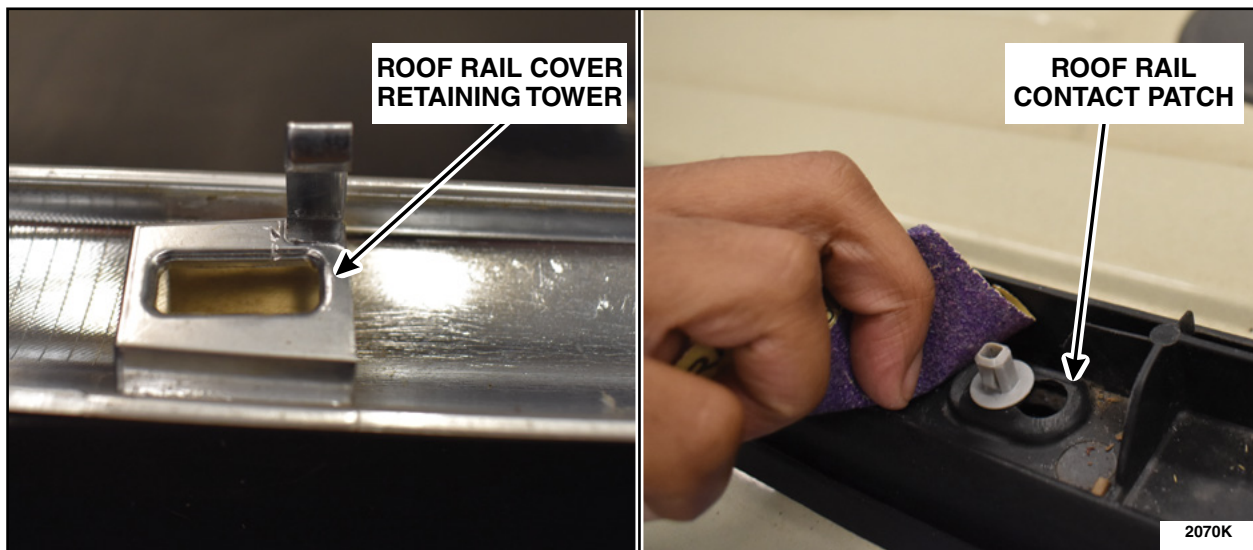

FIGURE 7
7. Scuff the surfaces of the roof rail cover retaining tower and the roof rail contact patch with 60 grit sand paper or coarser, then clean with alcohol. See Figure 7.